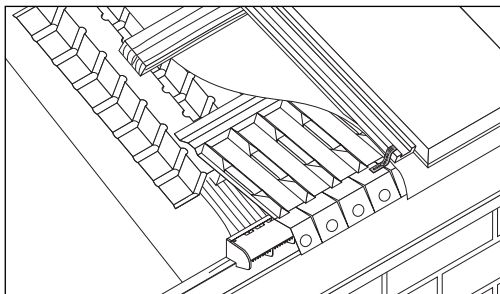

Fig 57 – Clipping at eaves
- 1 The eaves course of tiles should be fixed by clipping. Purpose made eaves clips are nailed to the fascia board and located over the side lock of the eaves course tile (Fig 57).